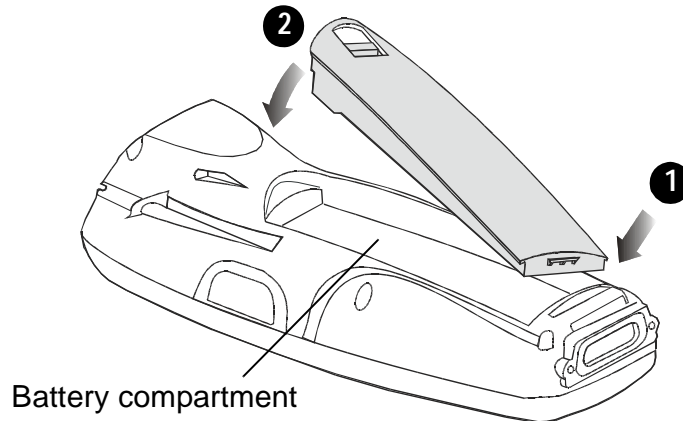

Figure 3. Battery Installation
1. Insert the battery, bottom end first, into the battery compartment (see Figure 3).